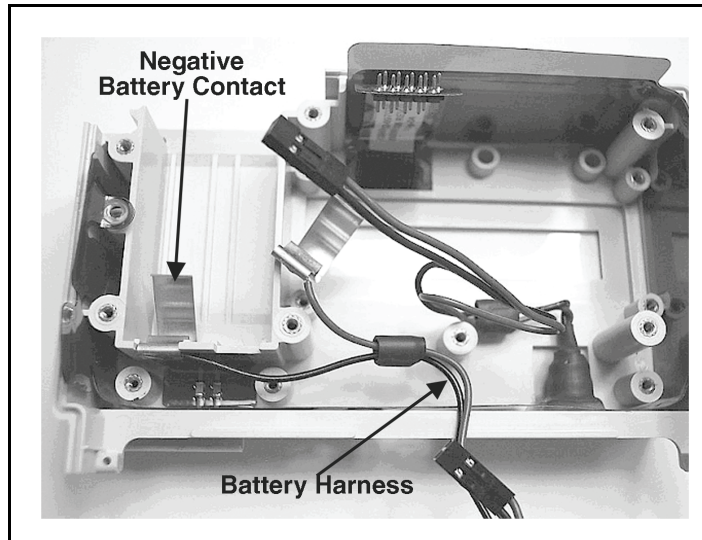

Figure 6-16. Negative Battery Connector Installation
5. Install the negative contact of the battery harness into position over the ESD Flex Circuit Ground Tab as shown in Figure 6-16.